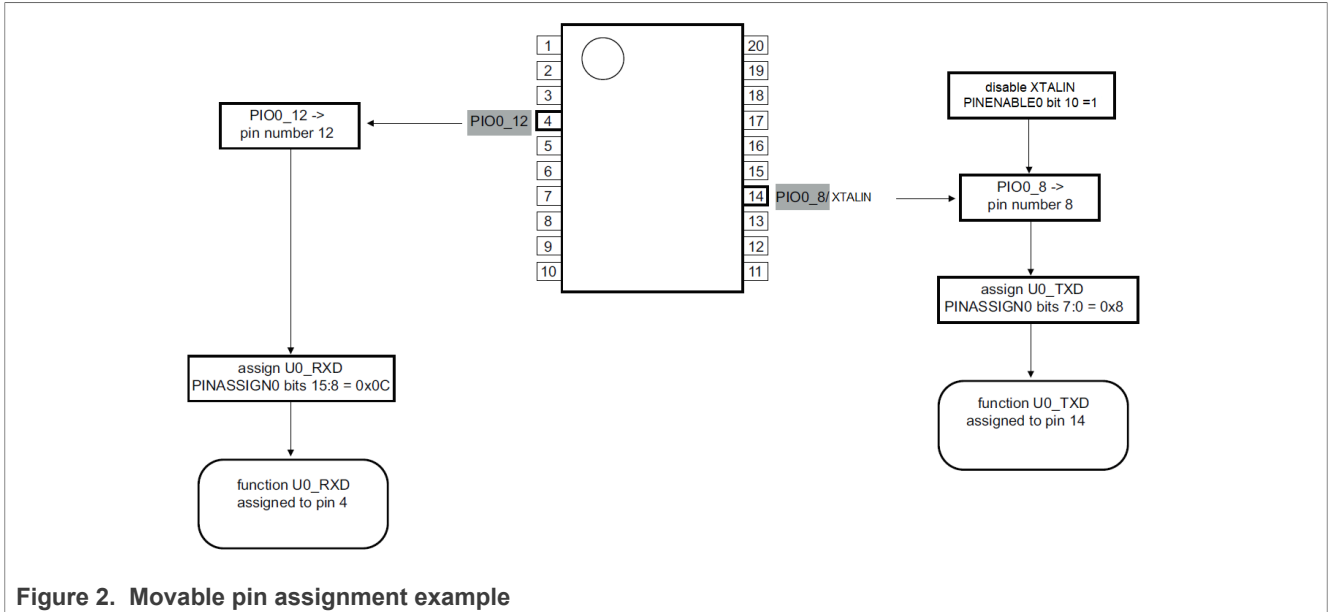

Figure 2. Movable pin assignment example
Most peripherals' functions can be assigned to any external pin, such as UART. Figure 2 shows how to assign the U0_RXD and U0_TXD functions to external pins.
1. Decide which GPIO pin would be used as U0_RXD and U0_TXD. Figure 2 shows that PIO0_12 and PIO0_8 will be connected to U0_RXD and U0_TXD.